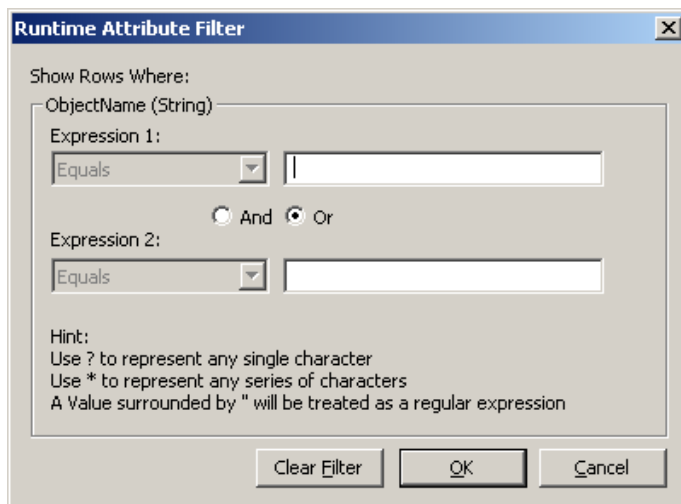

Figure 86. Filtering Columns
2. A filter dialog according to Figure 86 is displayed.